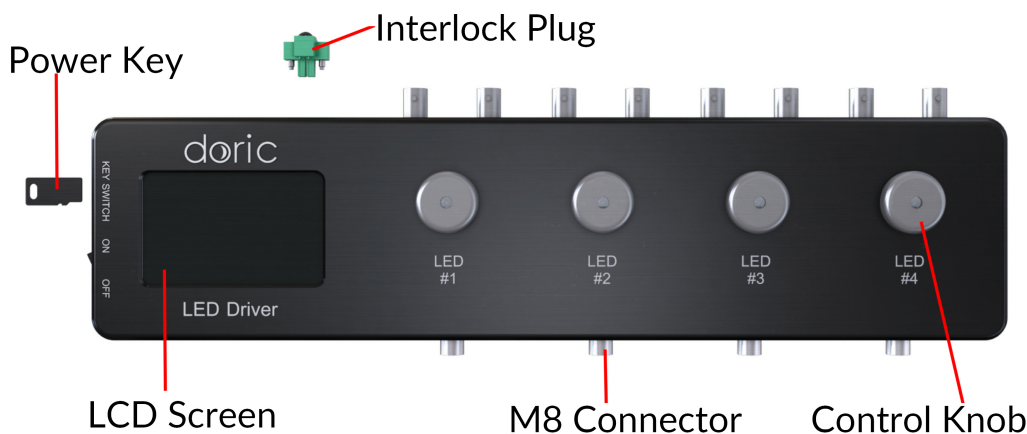

Figure 2.8: Top view of a 4-channel LED Driver
- The **LCD display** (Fig. 2.8) allows easy operation and monitoring. For each channel, the LCD displays the type of light source (LED), the operating mode, the center wavelength in nm and the current setting.
If either the *LED driver* and the *LED Fiber Light Source* are used as a stand-alone devices, 3 modes are available: Constant current (CW), External TTL (Ext. TTL), and External Analog (Ext. Ana). The operating mode is changed by pressing the **Control knob** (See Fig. 2.8 and Fig. 2.13). The maximal driving current is set by turning **Control knob**. Use a fast/slow rotation for coarse/fine adjustment. The operating mode and the maximum driving current setting are independently adjusted for each channel.